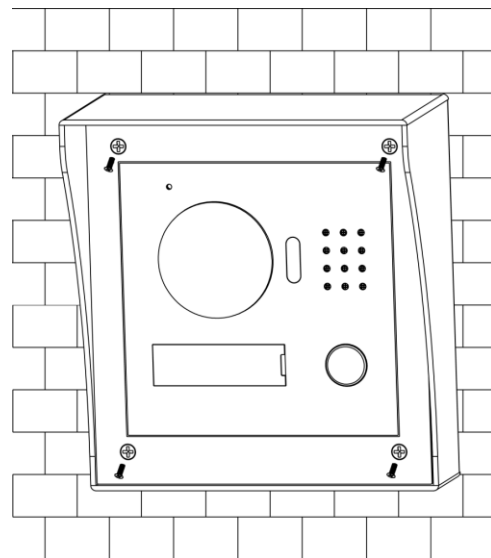

Figure 2
- Step 2. Align the device on metal bracket according to screw hole. At spot 2 fasten screw (M3×8 Cross recessed countersunk head tail machine screws --- galvanizing white), and fix device on metal bracket. See Figure 2